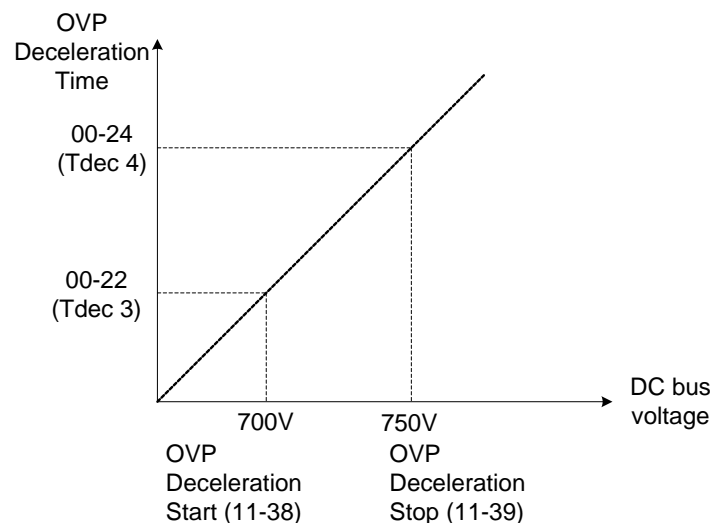

Figure 4.4.92 OVP deceleration time
When the regenerative energy decreases, the inverter output frequency will return to the actual frequency reference. Deceleration rate is based on the DC voltage, as shown in Figure 4.4.92.
3) When the inverter is stopped, the deceleration rate can be set with parameter 00-15 (Tdec1). In case the DC voltage is too high, the inverter will decelerate based on the OVP deceleration time as shown in Figure 4.4.92.
The process of OV prevention mode 2 is the same as that of OV prevention mode 1 but it strengthens more the part of DC BUS over the deceleration stop voltage of OV prevention (11-39) in Fig.4.4.92. It can accelerate frequency compensation to avoid OV protection by increasing frequency gain of OV prevention 2 (11-28).